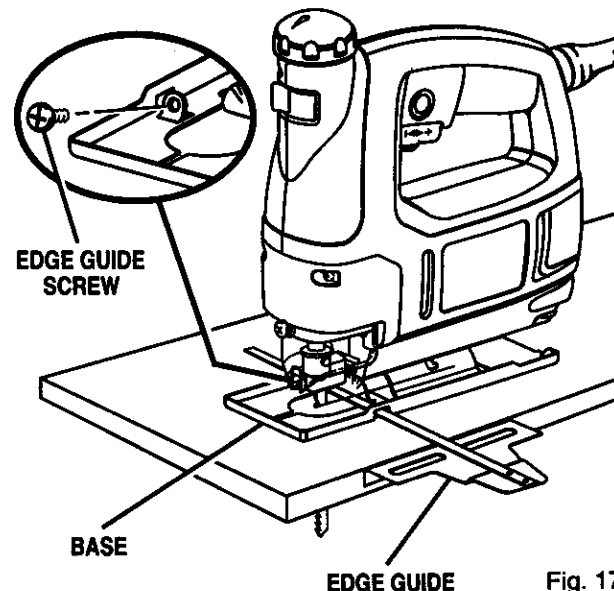

Fig. 17
See Figure 17.
- Insert arm through the two slots in the base of your saw as shown in Figure 17.